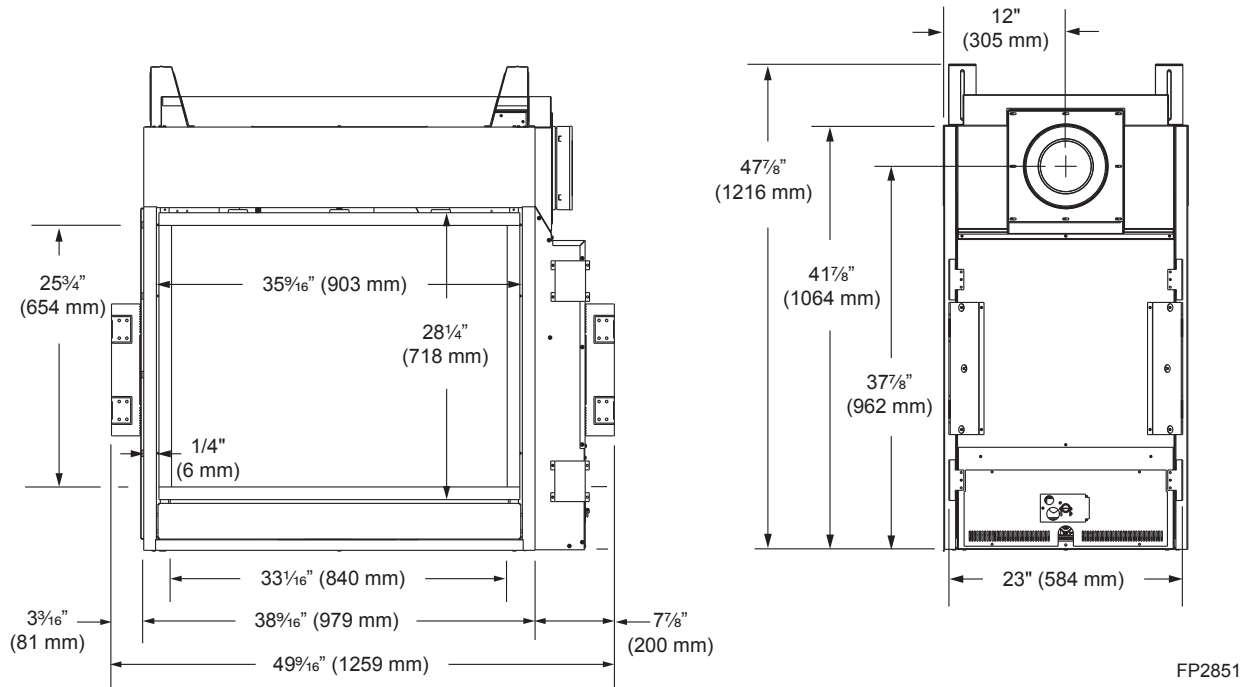
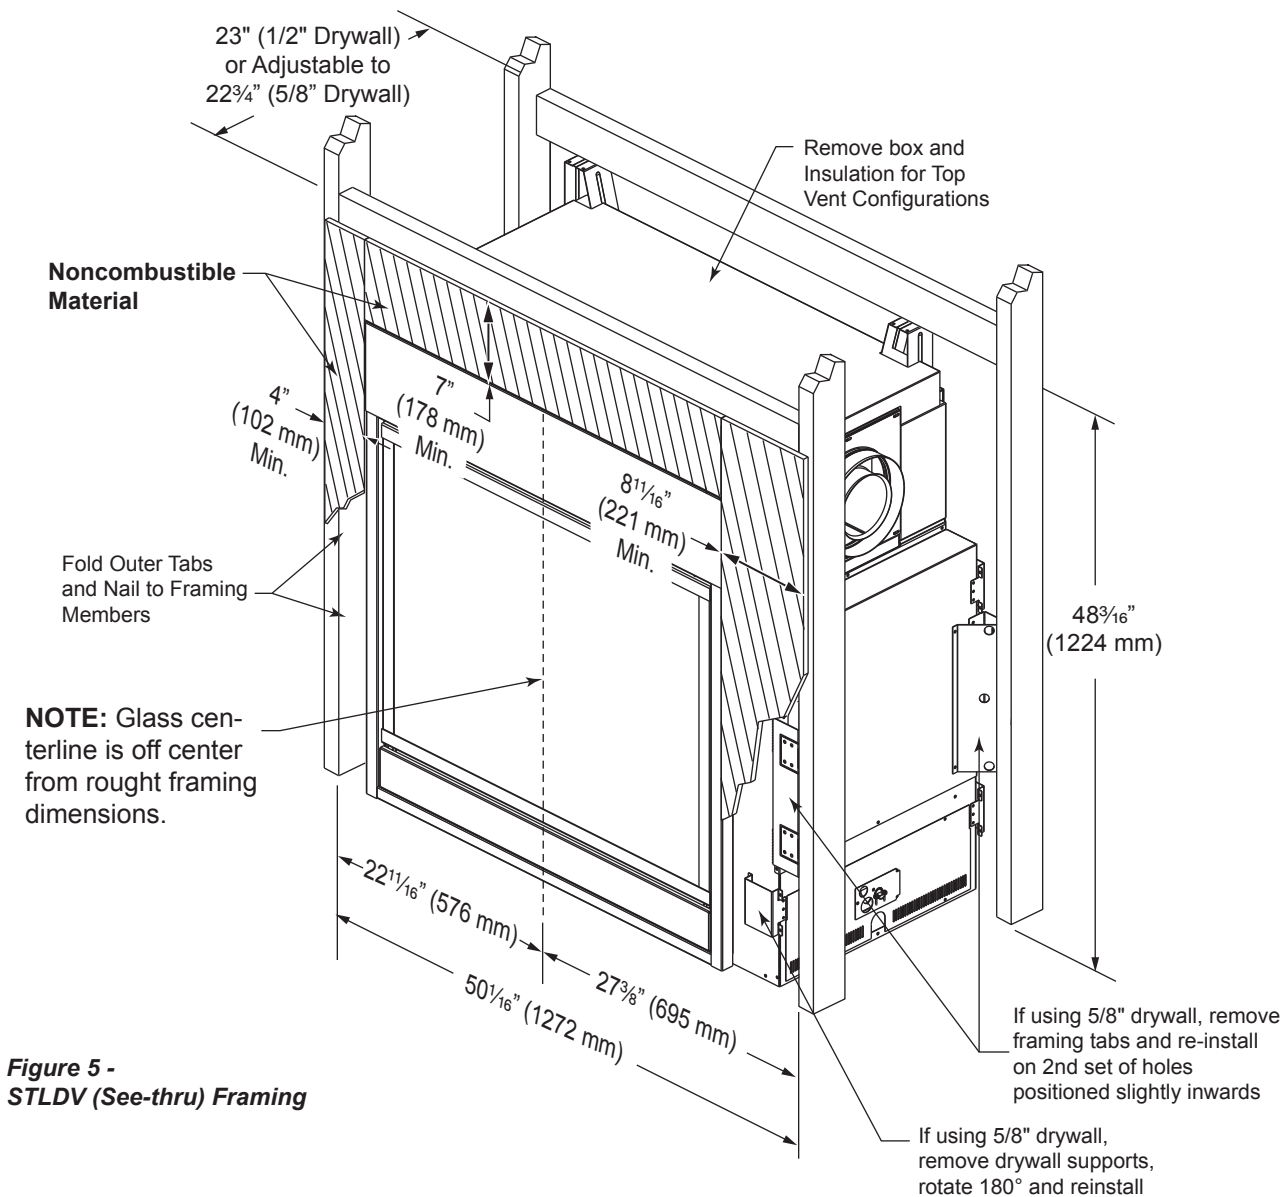

**Figure 2 -
Figure 5 -
The fireplace must be secured to the floor and/or to framing studs as shown in *Figure 5*. Use four (4) wood screws or masonry/ concrete screws to secure fireplace to the floor. Use four (4) screws to attach fireplace to framing. The side brackets or nailing flanges are designed to accommodate two wall boards thicknesses, 1/2" or 5/8".
The area above and on the sides of the fireplace must be a noncombustible material. *Figures 5, 6, 7*
NOTE The area above and on the sides of the fireplace must be a noncombustible material. *Figures 5, 6, 7*
Firebox framing can be built before or after the appliance is set in place. Construct firebox framing following *Figure 5, 6 or 7* for your specific installation requirements. The framing headers may rest on the top of the firebox stand-offs. Do not bring headers below top of standoffs. **NOTE:** When planning your framing and installation, keep in mind that the gas line and electric power come in on the same end of the fireplace. Refer to Figures 2, 3 & 4 for fireplace dimensions.